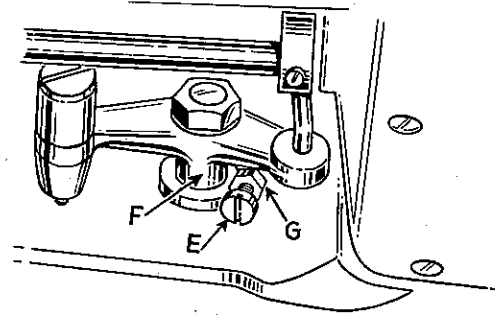

Fig. 9
This is accomplished by turning the machine over on its side, loosening lock nut (G, Fig. 9) and relocating the stop screw (E) on the lifter lever bell crank (F). By turning the stop screw counterclockwise, the presser bar connection is brought closer to the hand lifter. Turn the stop screw to secure desired 1/16 inch space. Tighten lock nut (G) to lock screw in position.